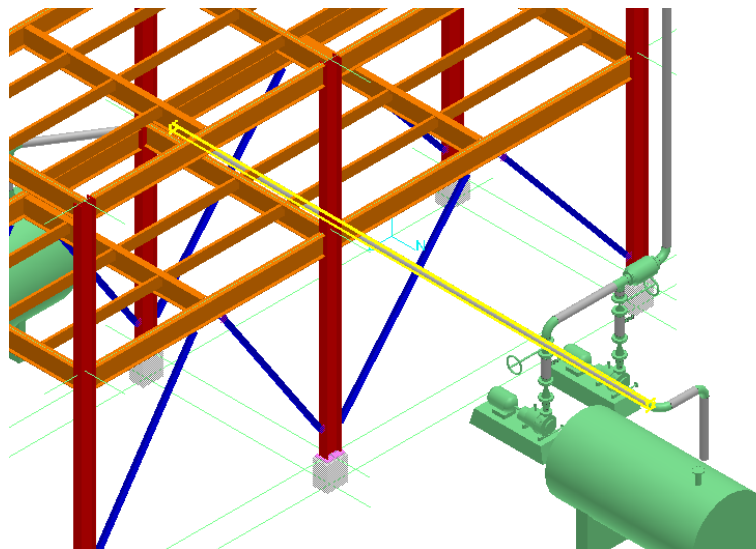

Figure 5: The Pipe Straight Feature 2001-P
2. In the select straight feature smartstep, select the pipe straight feature **2001-P** that will be supported. The selected pipe straight feature should resemble Figure 5.